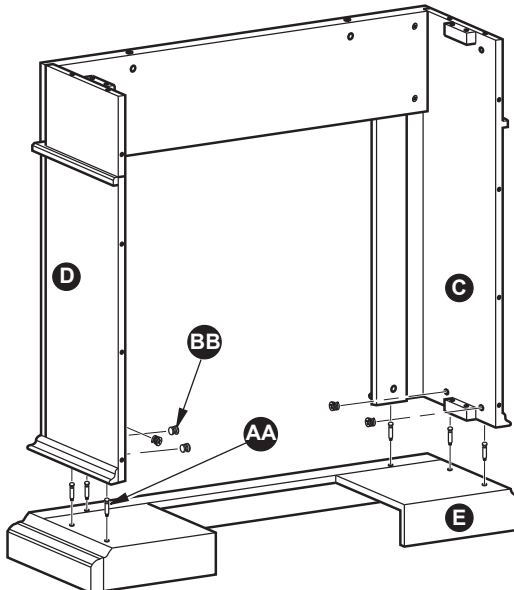

Figure 30
2. Insert 6 Cam Locks (BB) into the Left Side Panel (C) and the Right Side Panel (D). Screw 6 Cam Dowels (AA) into Base (E). Attach Base (E) into assembled frame by tightening the Cam Locks (BB) as shown in Figure 30.